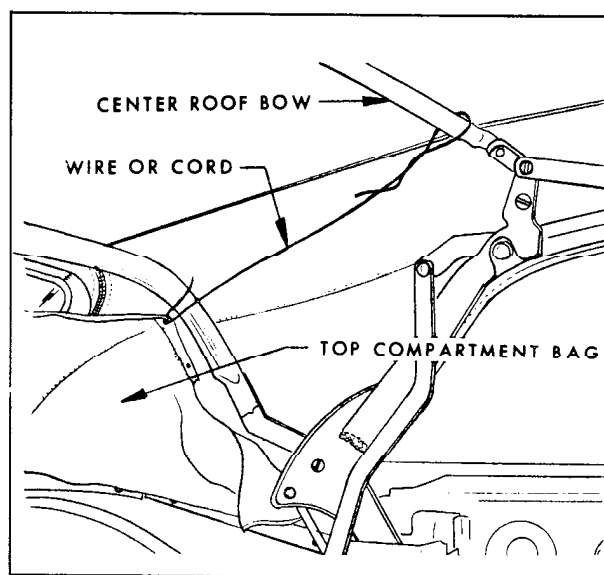

Fig. 17-121 Top Compartment Bag Held in Position
5. Detach folding top compartment bag from rear seat back panel, exposing rear quarter and rear trim stick attaching bolts. Forward end of top compartment bag may be tied or wired to center roof bow to provide ready access to attaching bolts. (Fig. 17-121)